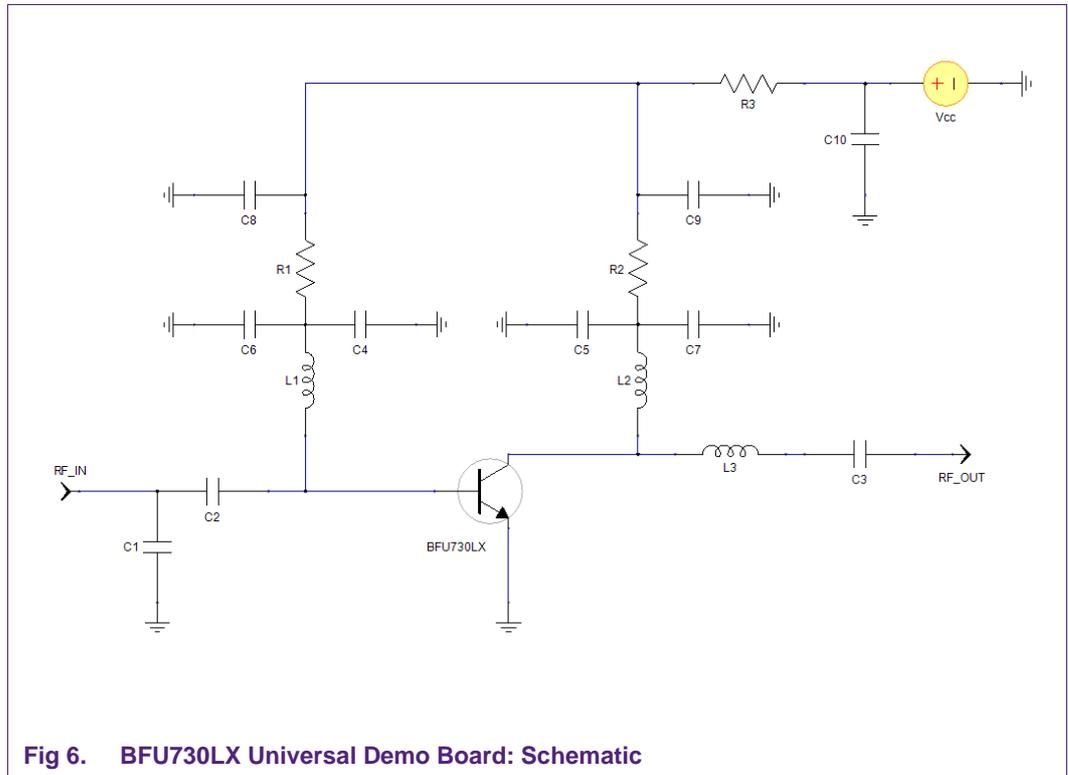
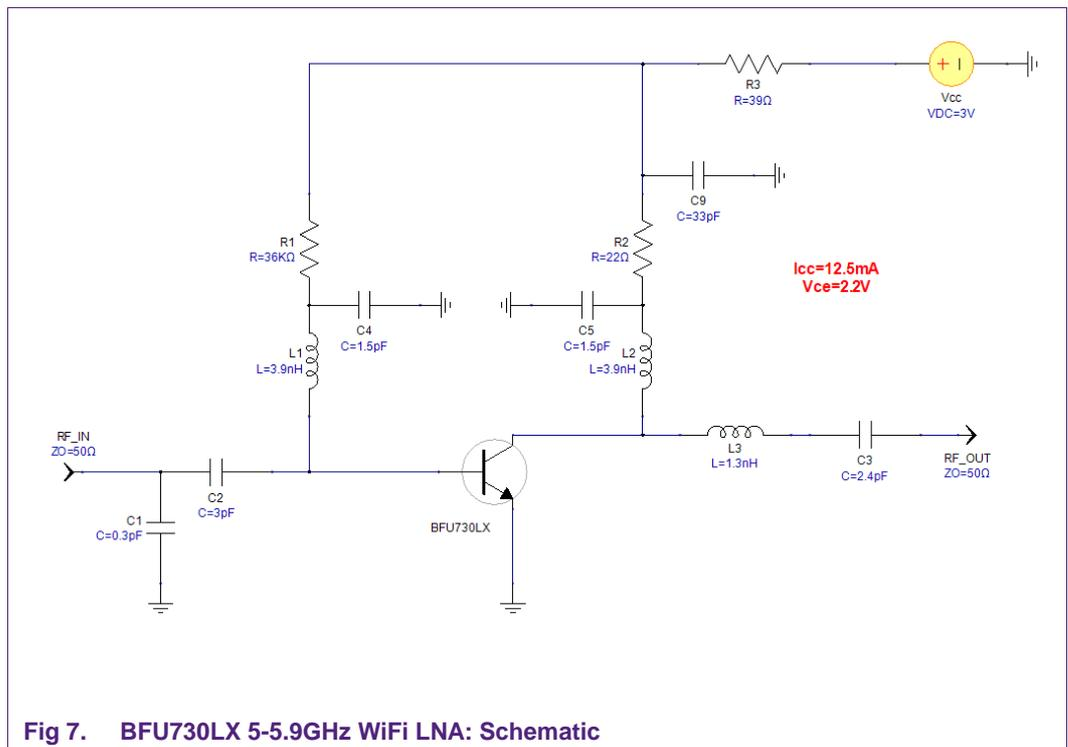

Fig 6. BFU730LX Universal Demo Board: Schematic
Fig 7. BFU730LX 5-5.9GHz WiFi LNA: Schematic
**Note:** Figure 6 is the schematic for BFU730LX universal demo board, not needed components are not assembled, the new schematic is shown in figure 7, and the changes are as following: